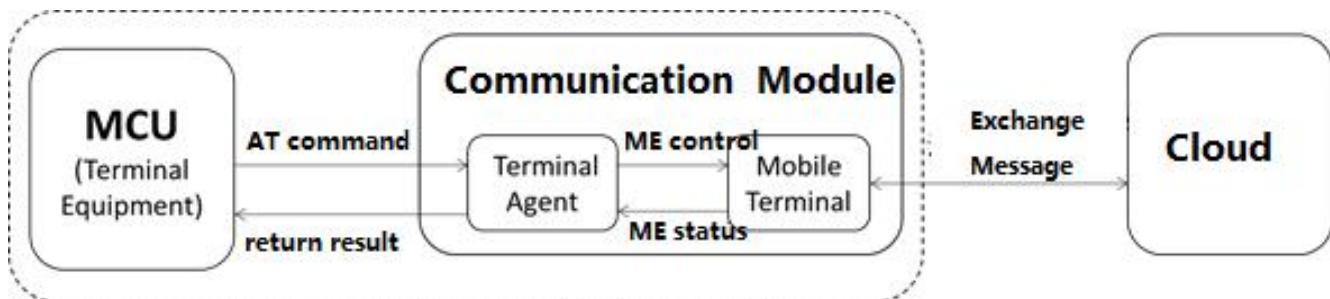

Figure 1-1 Architecture oveview
The system structure of terminal equipment (TE), terminal adapter (TA) and mobile terminal (MT) and the basic process of establishing mutual association are shown in Figure 1-1.
According to Figure 1-1, the MCU module and the communication module are jointly integrated into the IoT devices. The MCU communicates with the TA through the AT command to control the MT (ME refers to the mobile equipment) and realize the interaction between the Internet of Things devices and the cloud.